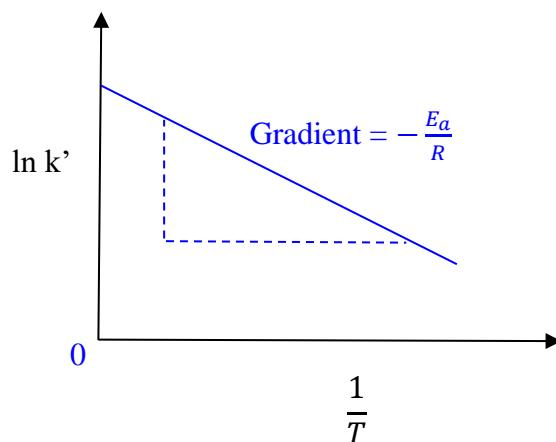

Fig. 2.2
- (iii) Sketch the graph you would expect to obtain from 2(c)(ii) on the axes in Fig. 2.2.